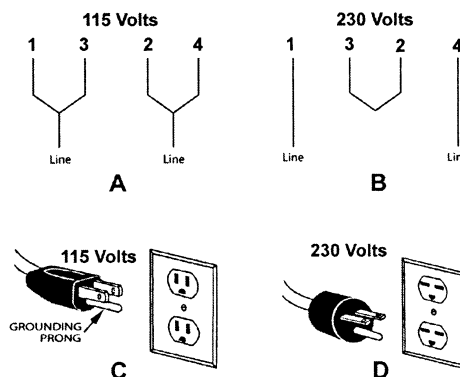

Figure 2
2. This band saw is supplied with four motor leads that are connected for 115V operation as shown in A, Fig. 2. For 230V operation reconnect the leads as shown in B, Fig. 2.
3. The 115V attachment plug supplied with the band saw (C, Fig. 2) must be replaced with a UL/CSA listed plug suitable for 230V operation (D, Fig. 2). Contact your local Authorized JET Service Center or qualified electrician for proper procedures to install the plug. The band saw must comply with all local and national codes after the 230V plug is installed.
4. The band saw with a 230V plug should only be connected to an outlet having the same configuration (D, Fig. 2). No adapter is available or should be used with the 230V plug.